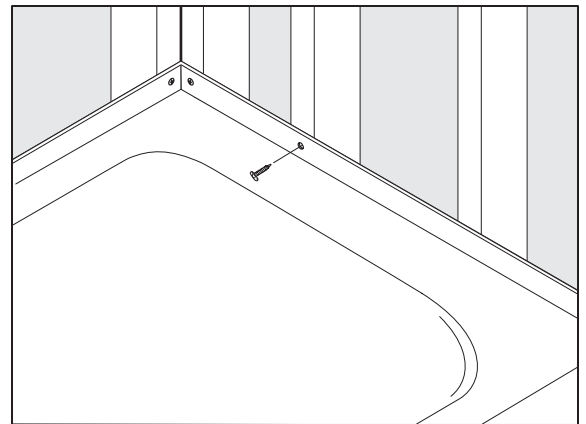

FIGURE 2. If necessary, shim between tub and studs for tight fit and screw to each stud.
- After tub is leveled, if alcove is larger than tub, shim between tub and studs to create a tight fit. Screw tub flange to studs (**Fig. 2**).